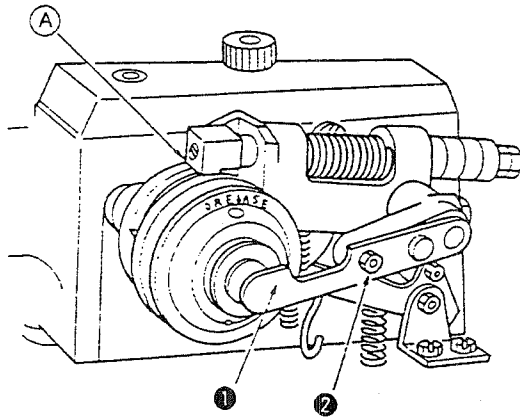

Fig. 2
- 1) Make the sewing machine enter into its normal stop-motion position. Be sure to turn OFF the power to the sewing machine in advance. (The correct stop-motion position is obtained when the stop-motion hook is fully lowered until the lever is aligned with claw **A**. (Fig. 2))